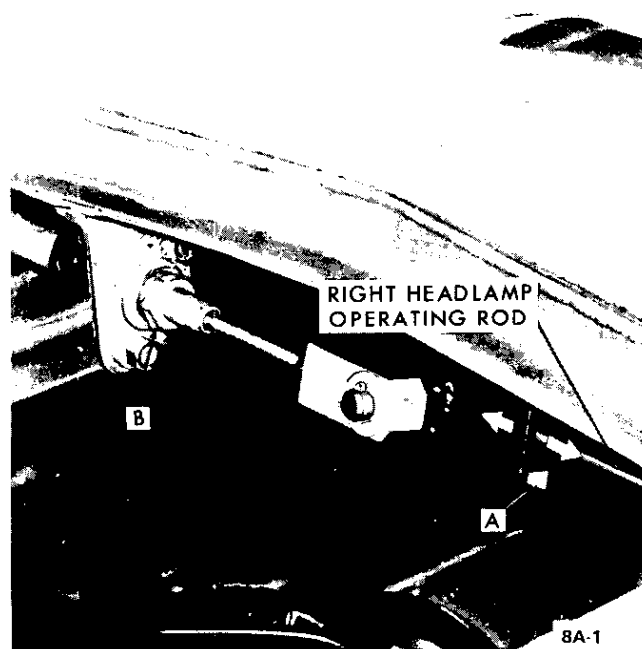

Figure 8A-1 Headlamp Operation Adjustments
1. Adjust headlamps to be parallel in any position by changing length of right headlamp operating rod. For adjustment loosen clamp bolt (A). See Figure 8A-1.
2. Adjust headlamps to lock or unlock simultaneously by adjusting lock nut (B). See Figure 8A-1.